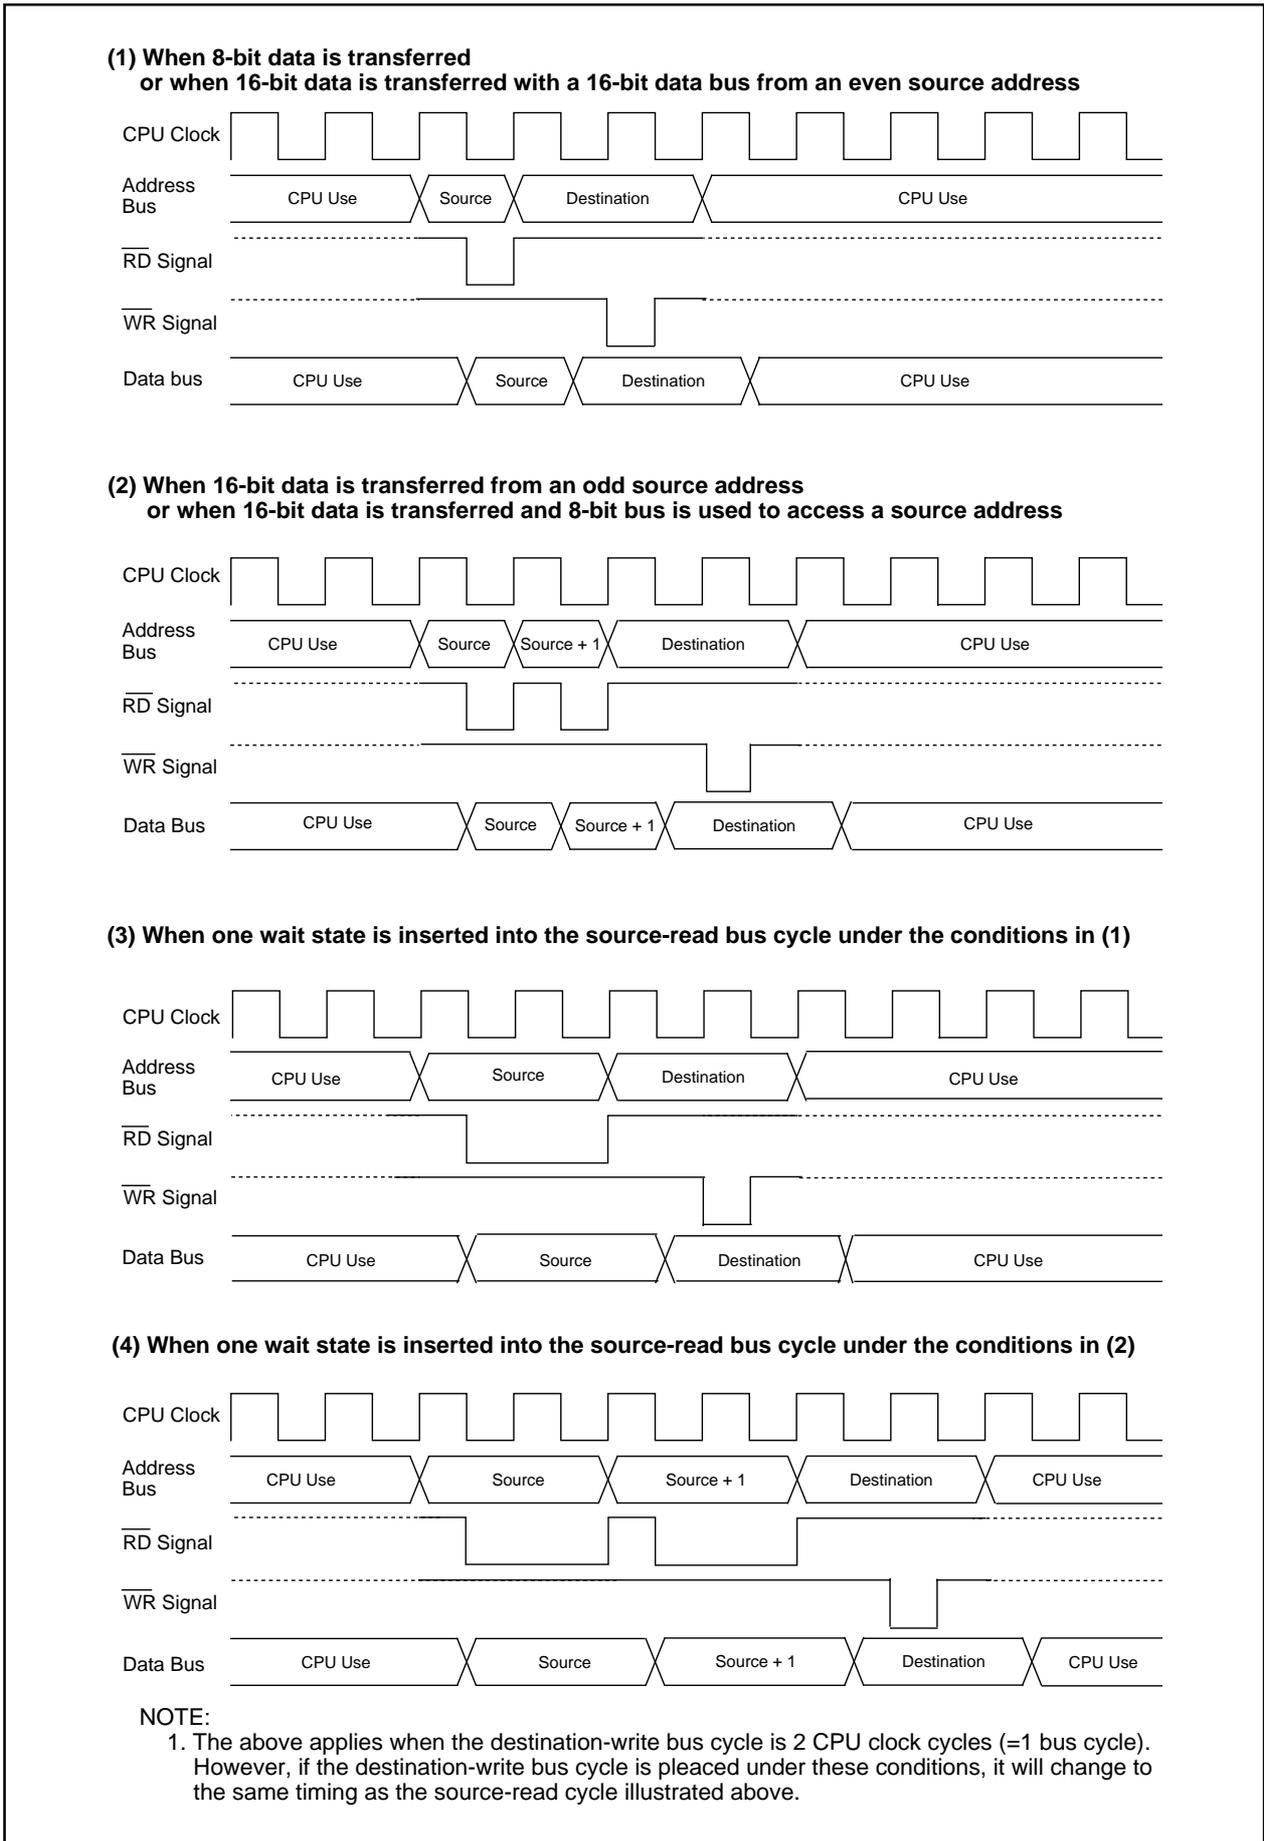

Figure 12.6 Transfer Cycle Examples with the Source-Read Bus Cycle
Figure 12.6 shows an example of a transfer cycle for the source-read bus cycle. In Figure 12.6, the number of source-read bus cycles is illustrated under different conditions, provided that the destination address is an address of an external space with the destination-write cycle as two CPU clock cycles (=one bus cycle). In effect, the destination-write bus cycle is also affected by each condition and the transfer cycles change accordingly. To calculate a transfer cycle, apply respective conditions to both destination-write bus cycle and source-read bus cycle. As shown in example (2) of Figure 12.6, when an 8-bit data bus, accessing both source and destination addresses, is used to transfer a 16-bit data, two bus cycles each are required for the source-read bus cycle and destination-write bus cycle.